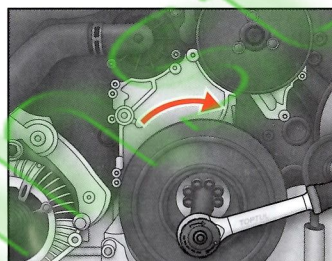

Fig.17
- (2) Using Crankshaft Adjuster (Part No.A), rotate the crankshaft in the direction of rotation to TDC on No.1 cylinder. (Fig.17)